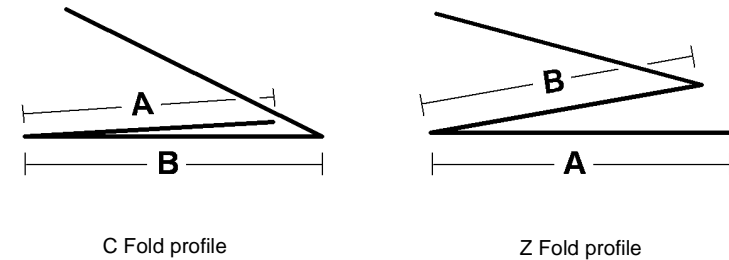

Figure 2 C folded and Z folded output copy profiles
1. Perform the adjustments that follow as necessary to meet with the customer C fold and Z fold requirements, Figure 2.
Figure 3. The folds marked B are created within the tri-folder module. The length of the B fold is determined by the position of the paper setting adjusters. If necessary remove the front door, PL 11.190, front cover PL 11.190 and the rear cover PL 11.190, then reposition the paper setting adjusters. Figure 2. An adjustment of 1 graduation on the paper size adjuster scale will adjust the position of fold B by 1mm.